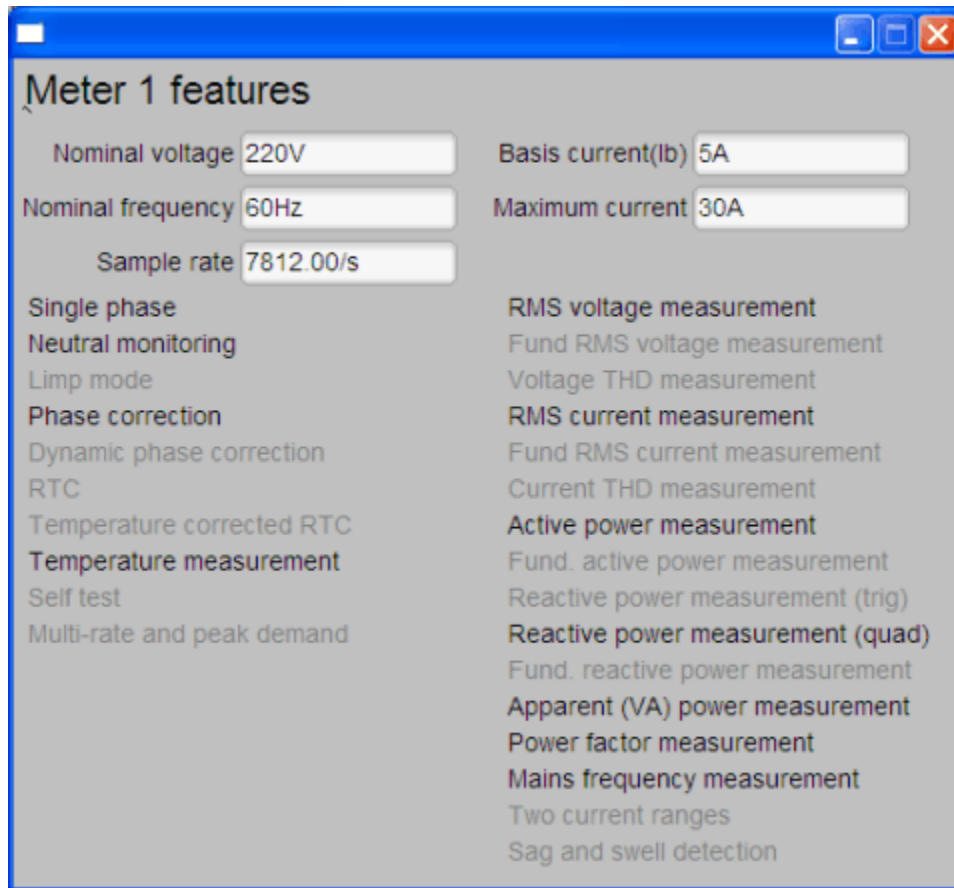

Figure 6-4. Meter Features Window
3. Click on the Meter Features buttons, which brings up the Meter Features window (see Figure 6-4). In this window, the support feature of the EVM is reported in the Meters Feature window. Figure 6-4 only shows the look and feel of the meter feature window, but this is not the exact feature of the EVM.